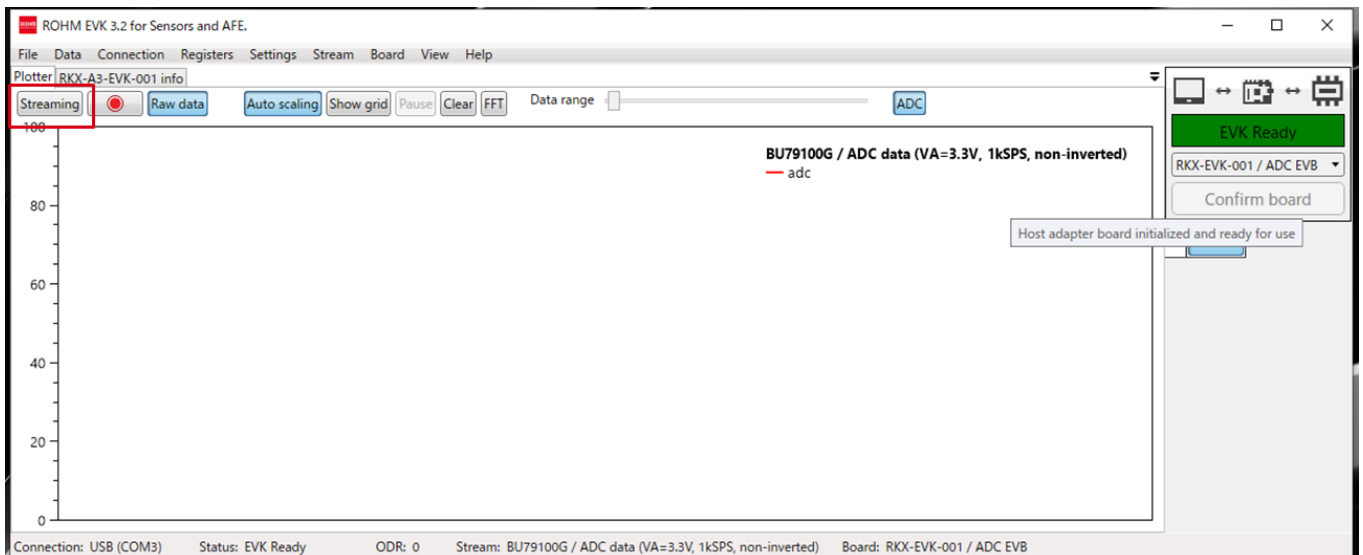

Figure 11. ROHM EVK GUI SW: “Streaming” button
- Click “Streaming” button to start evaluation. (Figure 11)